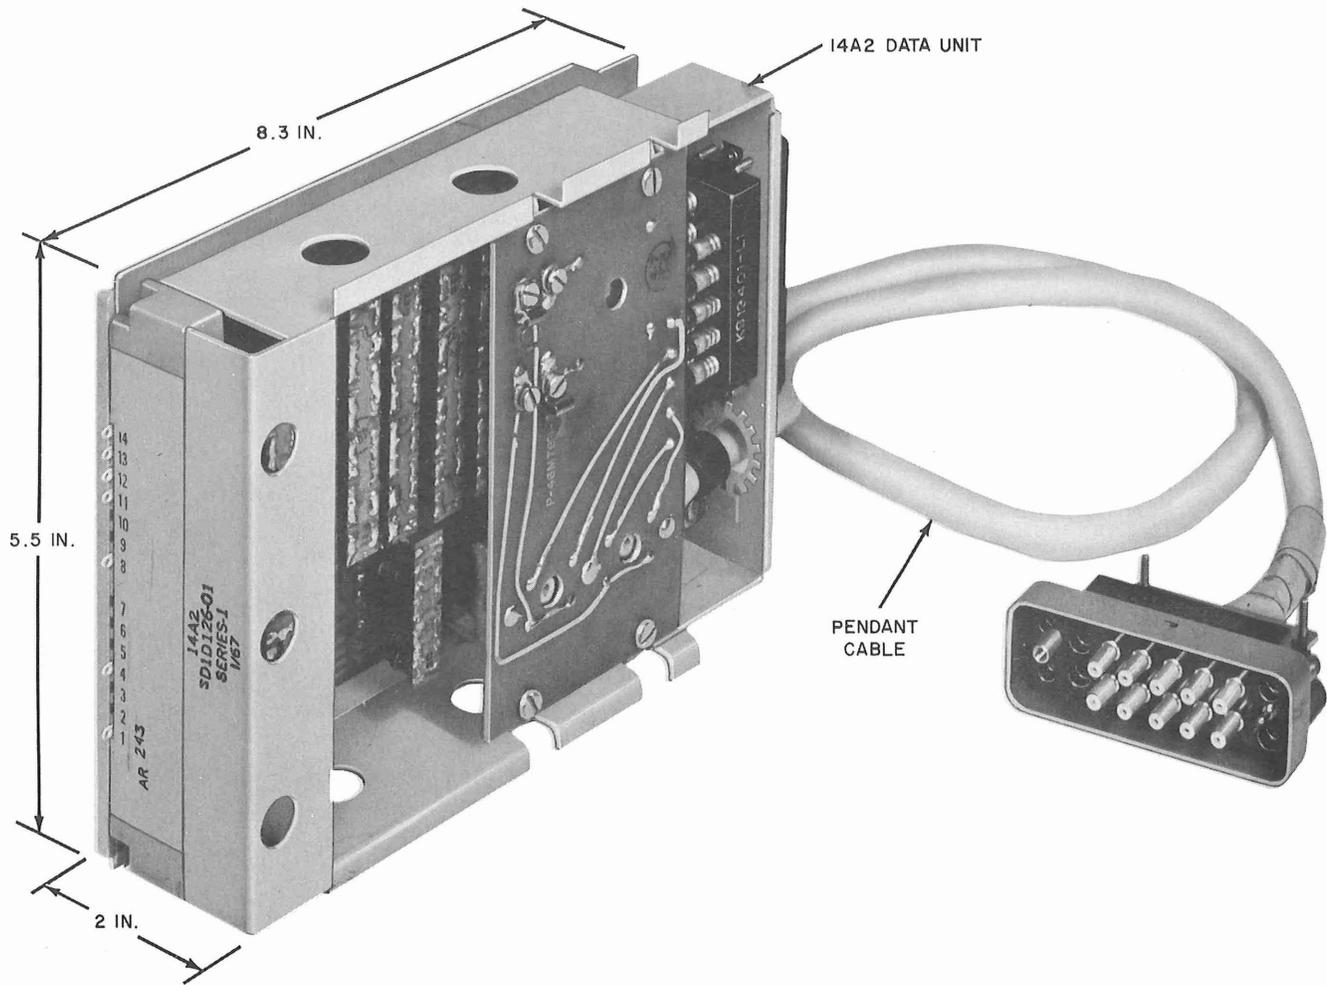

Fig. 1—I4A2 Data Unit
**1.04** The 14A2 Data Unit (Fig. 1) when used in DAS 806B5 provides: